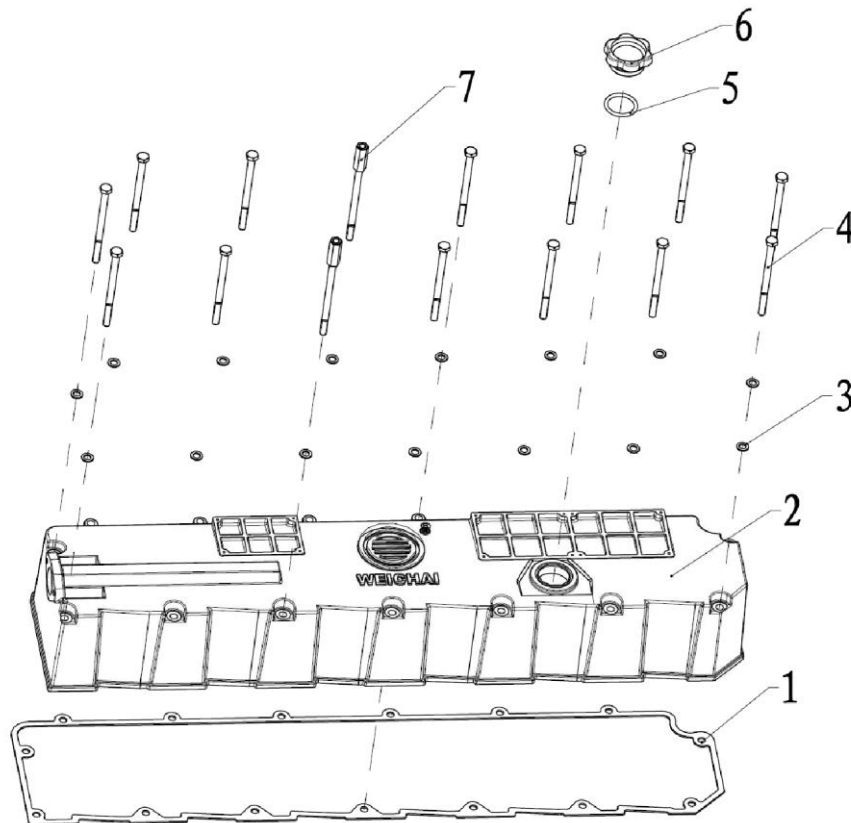

Fig. 4-7 Cylinder head cover subassembly and installation location schematic
- For further removal of cylinder head cover, refer to the fig. 4-7 Cylinder head cover assembly and installation location.